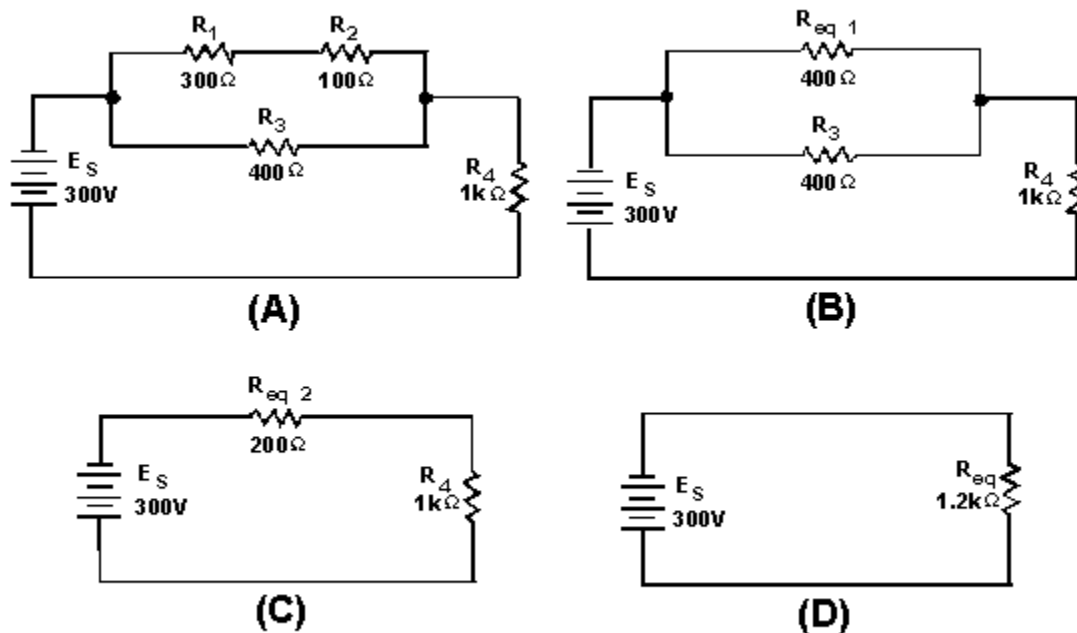

Figure 3-55.—Combination practice circuit.
Figure 3-55 is a typical combination circuit. To make sure you understand the techniques of solving for the unknown quantities, solve for  $E_{R1}$ .
Redraw the circuit as shown in figure 3-55(B).
Redraw the circuit as shown in figure 3-55(C).
*Q42. Refer to figure 3-55(A). If the following resistors were replaced with the values indicated:  $R_1 = 900\Omega$ ,  $R_3 = 1\text{k}\Omega$ , what is the total power in the circuit? What is  $E_{R2}$ ?*